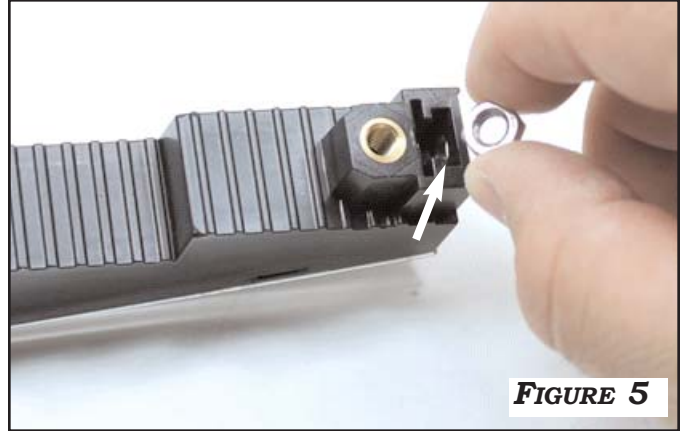

FIGURE 5
1. PRIOR TO PLACING THE LED INTO THE OPENING OF EACH DRL FRONT BEZEL, INSERT THE M6 NUTS INTO BOTH OPENINGS OF THE LED HOUSING AS SHOWN IN **FIGURE 5**
1. SCREW IN (2) BOLT STUDS PROVIDED IN THE KIT INTO BOTH OPENINGS OF THE LED HOUSING AS SHOWN IN **FIGURE 5**.